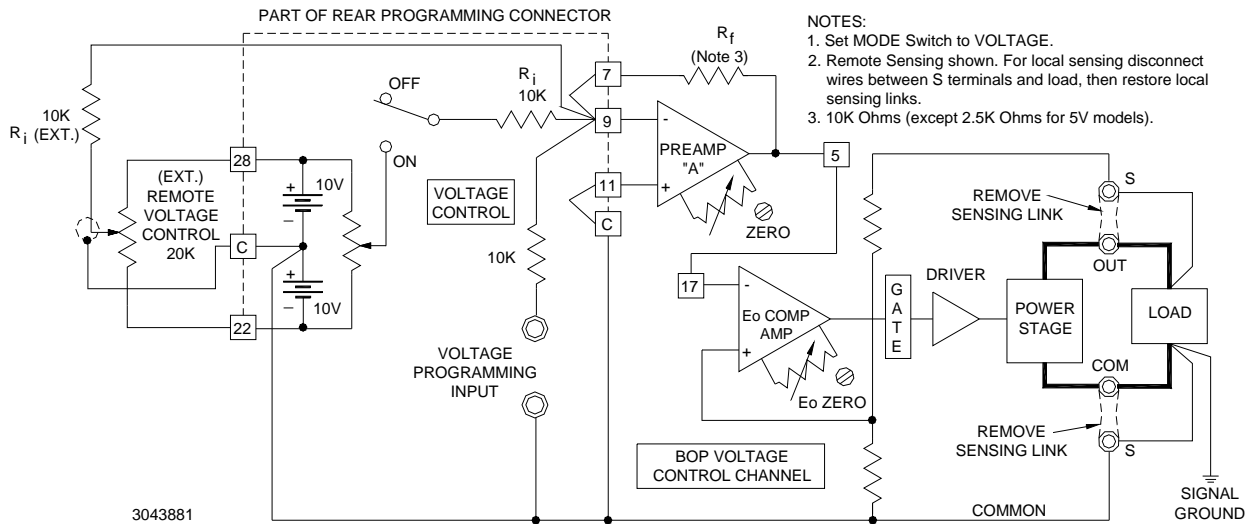

FIGURE 3-6. REMOTE POTENTIOMETER CONTROL OF D-C OUTPUT VOLTAGE
When configured as shown in Figure 3-6, Preamp "A" with the built-in feedback and input resistors has a gain of one and the fixed gain of all BOP models is designed so that a d-c input signal of zero to (\pm)10 volts will control the BOP output through its specified range. When the front panel VOLTAGE CONTROL switch (4, Figure for 3/4 rack, Figure 2-1 for full rack) is set to OFF, operation is similar to local control described in PAR. 3.3.1, except that an external potentiometer is substituted for the front panel VOLTAGE control (3).